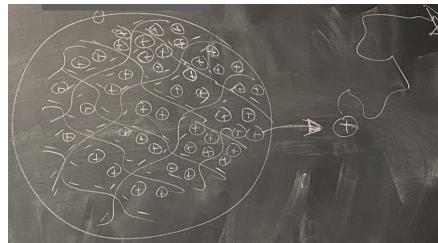

Figure 4.8: A negatively charged gel.
- Since positive charges are leaving the gel (as in Figure 4.8), the gel will have a net negative charge afterwards. Specifically, this net negative charge will be equal to $-q_1 Q_{\text{macro}}$ (i.e., the opposite sign of the charge that is leaving, times the number of charges that have left).